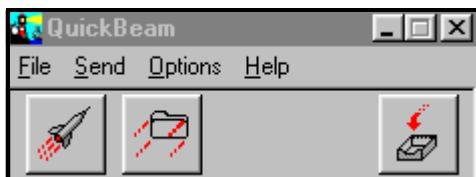

Figure 5-14: The QuickBeam Window
- Click on the desired file, and drag it onto the rocket button in the QuickBeam window, as shown in Figure 5-14 below, or